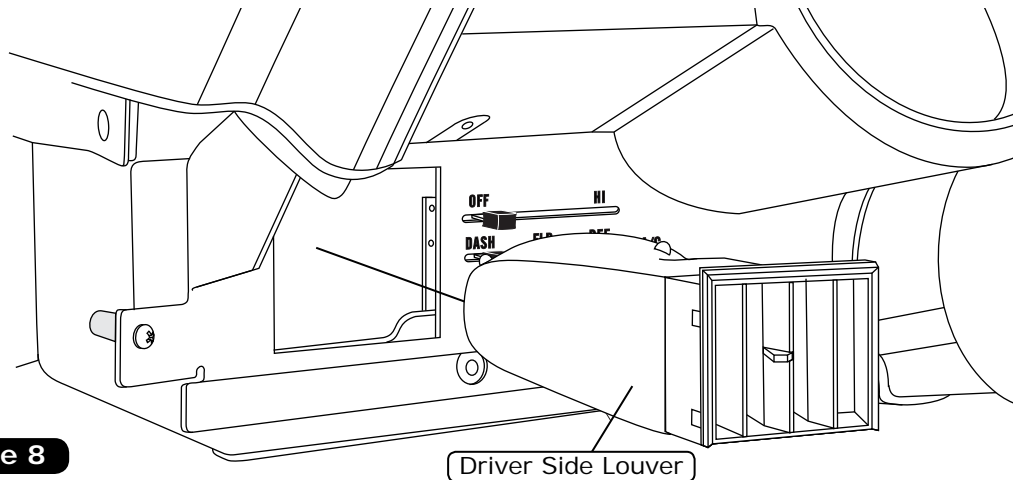

Figure 8
1. Install the driver side louver as shown in Figure 8, below.